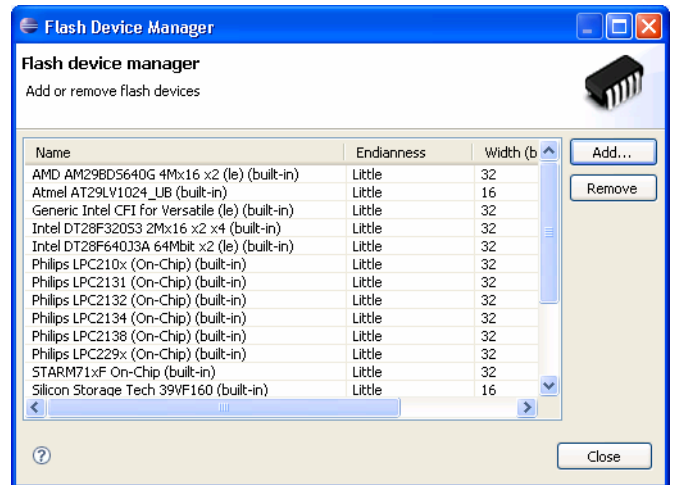

Figure 4 The Flash Device Manager dialog
1. Select **Target** → **Flash Device Manager** from the Eclipse main menu. The **Flash Device Manager** dialog opens (see Figure 4).